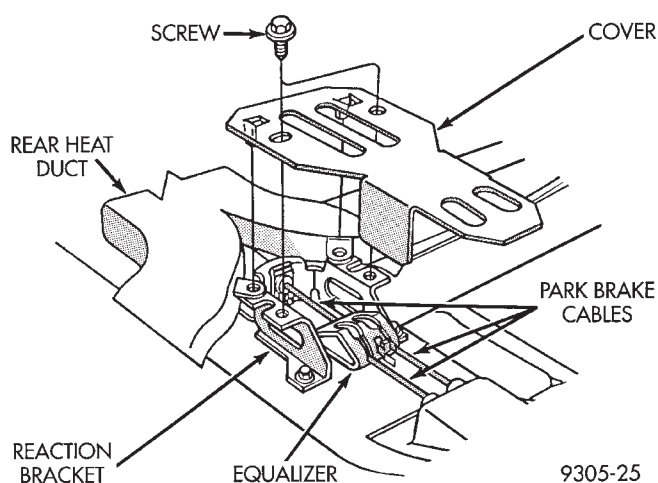

Fig. 6 Park Brake Equalizer Bracket
(11) Move front passenger side seat to the full forward positions.
(12) Remove the drivers side front seat assembly from the vehicle. Refer to Group 23 Body in this service manual for required procedure for front seat assembly removal.
(13) Remove rear seat lower cushion from vehicle. Refer to Group 23 Body in this service manual for required lower seat cushion, removal procedure.
(14) Remove both lower rear door opening sill moldings to allow rear section of carpeting to be folded forward. This will expose the equalizer cover which is attached to park brake cable reaction bracket (Fig. 6).
(15) Remove the park brake equalizer cover from the reaction bracket (Fig. 6).